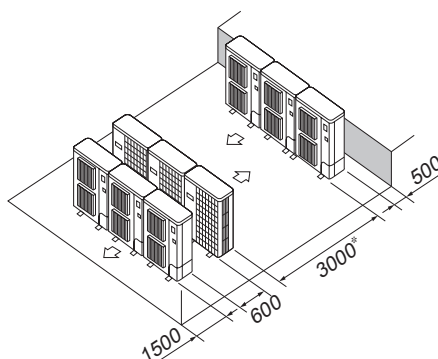

Fig. 3-17
- Multiple parallel unit arrangement (Fig. 3-17)